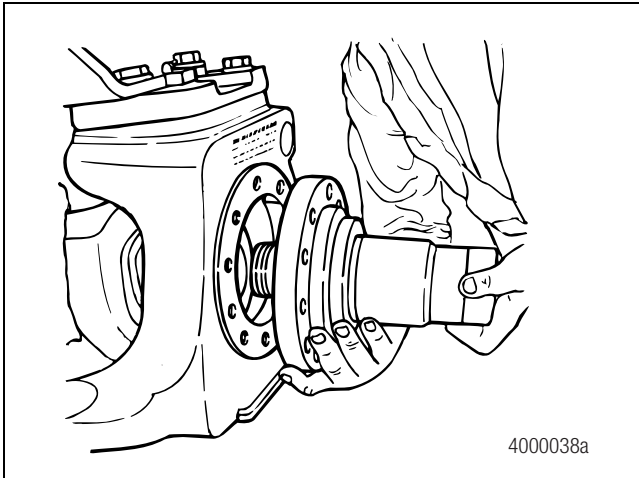

Figure 3.17
3. Pull the spindle straight from the knuckle and axle shaft. The axle shaft bushing and oil seal will remain inside the spindle. If necessary, remove these parts with the appropriate tool. Figure 3.17.